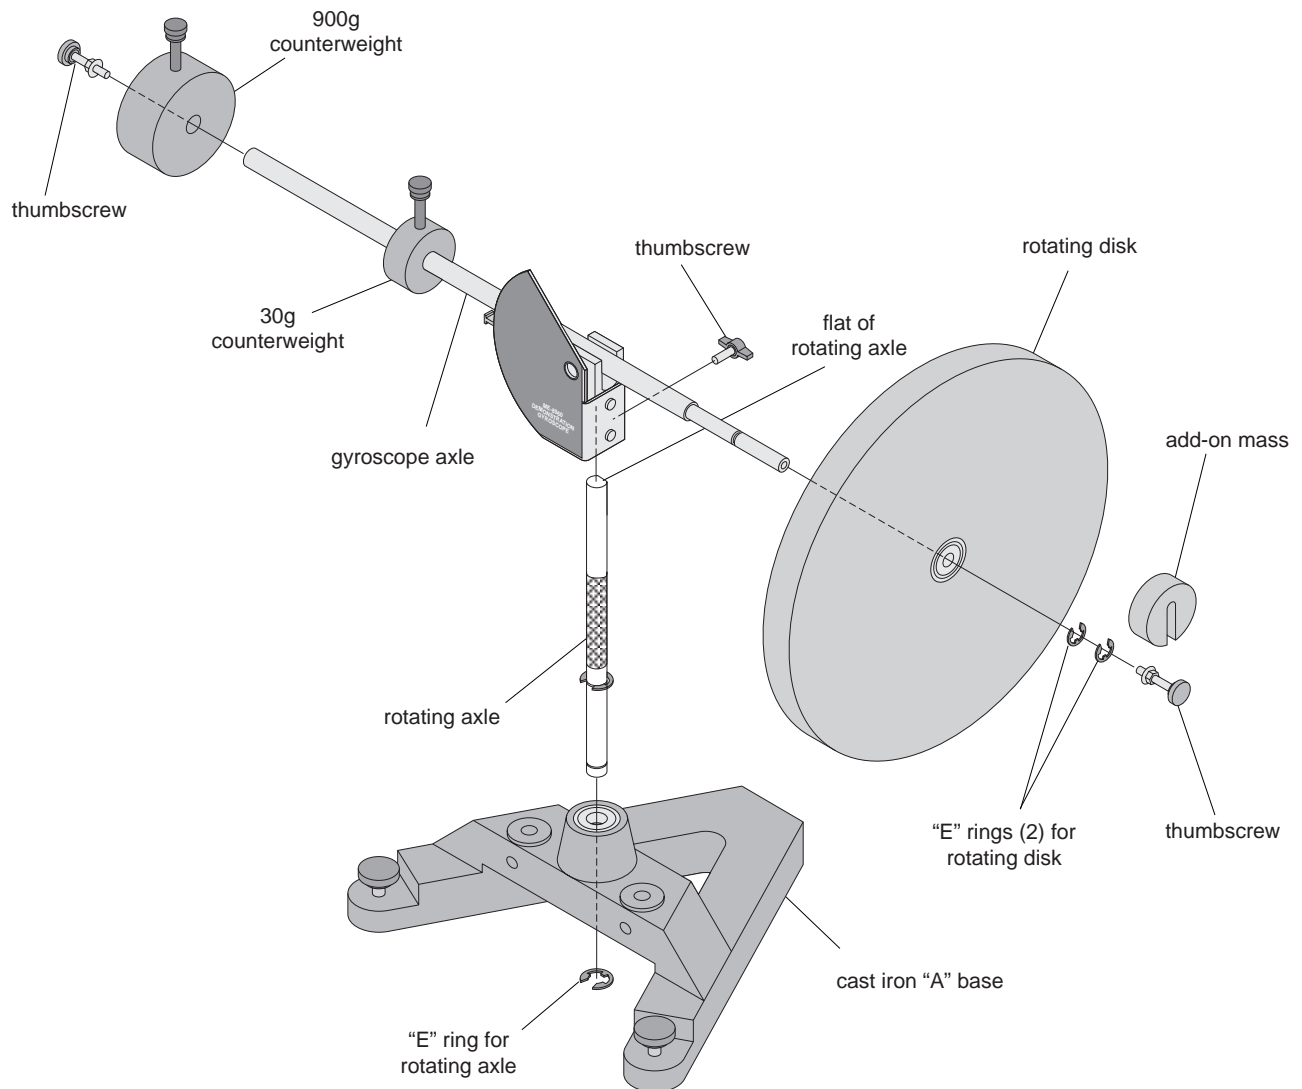

Figure 1: Demonstration Gyroscope Assembly
- ① Insert the cylindrical end of the vertical shaft into the bearings on the top-side of the A-shaped iron base. Secure the shaft in place by inserting the retaining ring in the slot at the bottom of the shaft. See Figure 1.
- ② Attach the gyroscope axle to the vertical shaft and tighten the thumb screw against the flat side of the "D" on the vertical shaft.
- ③ Slide the smaller of the two counterweights (30g) onto the long side of the gyroscope axle and tighten the thumbscrew. Then slide the larger of the two counterweights (900g) onto the same end of the shaft and tighten its thumbscrew.
- ④ Put the disk on the other end of the gyroscope axle with the pulley side of the disk facing the center of the gyro. Secure the disk in place with the retaining rings (2). See Figure 1.
- ⑤ Screw the thumbscrew into the end of the shaft until the nut is tight against the end of the shaft